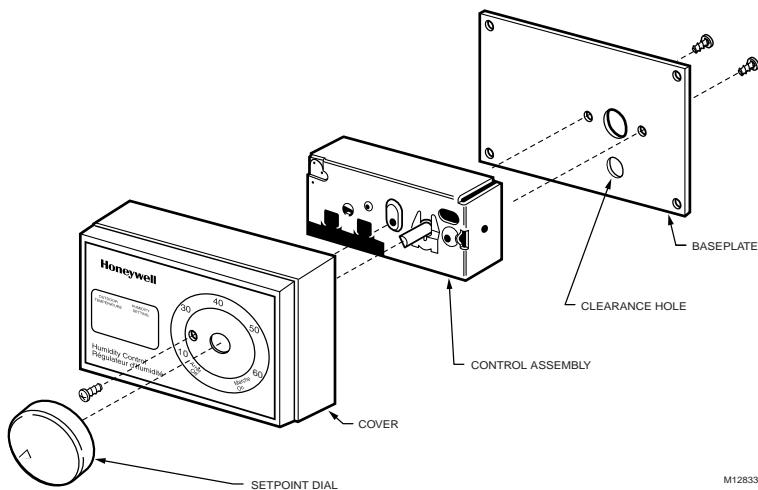

Fig. 1. Assemble control for wall mount.
6. To assemble the control for wall mounting (see Fig. 1):